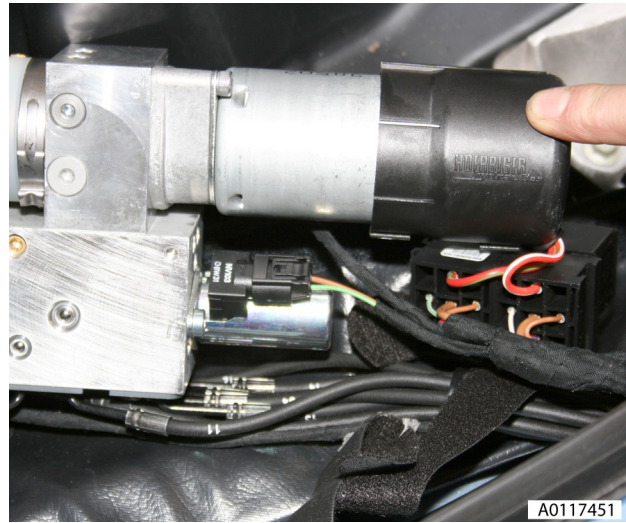

Fig. 24
43. Disconnect pump multiplug (see Fig. 24).